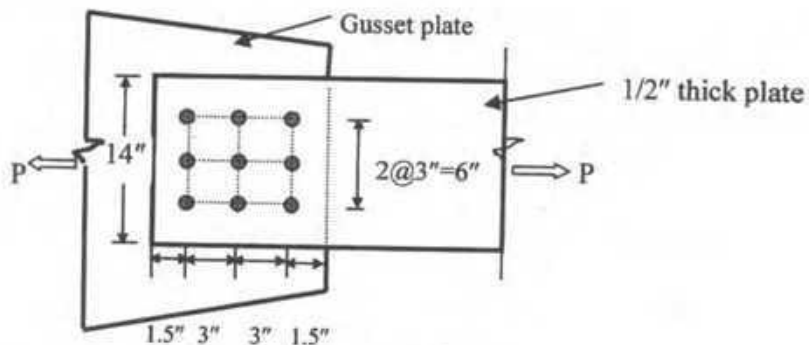

Fig.3
b) Determine the design load,  $P$  by AISC/LRFD for a 14"×1/2" steel plate connected to a 3/4" thick gusset plate as shown in Fig.3. Holes are for 7/8" diameter bolts and the plate is made from A36 ( $F_y=36$  ksi,  $F_u=58$  ksi) structural steel. Assume design shearing strength of the bolts = 48 ksi. Investigate all failure modes.